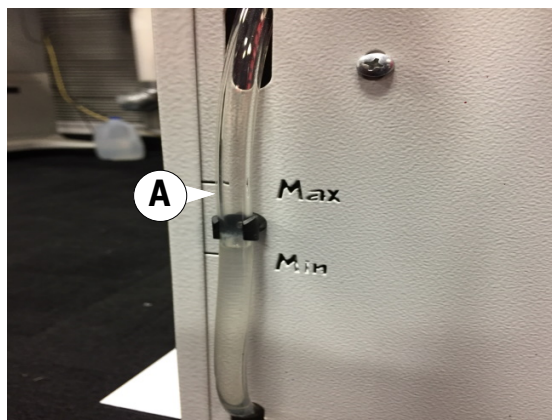

Figure 7-15 : Chiller Fluid Level Check window
2. Fill chiller with distilled water to the **Max** line, Figure 7-15.